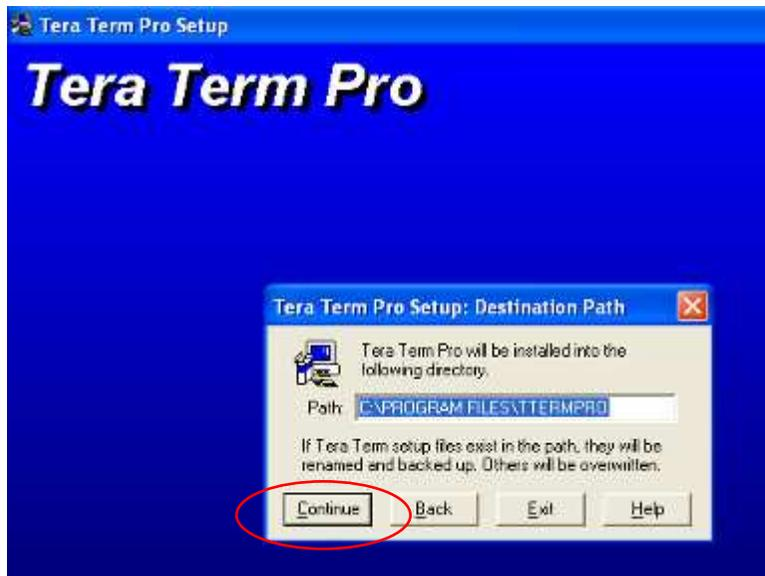

Figure 100:
4. Allow for the default settings and press 'Continue' (Figure 100).